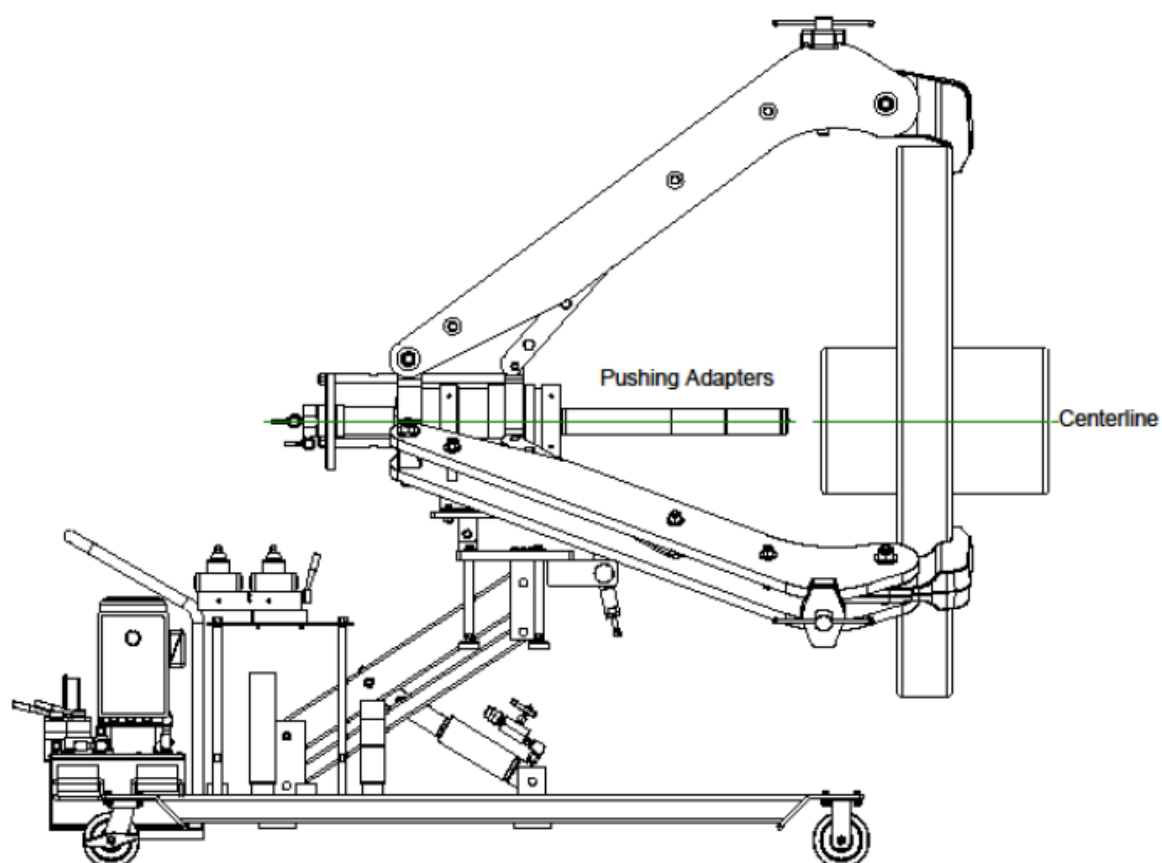

Figure 5 – Adding Adapters
5.3.4 Add as many adapters as practical to the forcing cylinder (see Figure 5).